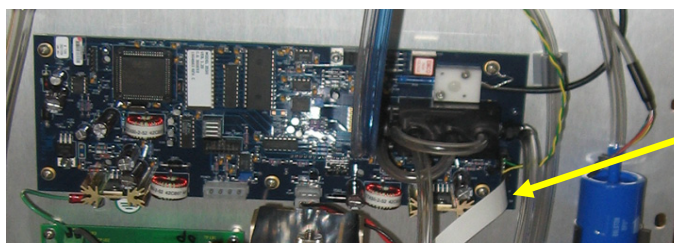

Figure 6-10
3. Follow the white flex cable from back of the electrometer to the main board and disconnect it (see Figure 6-10).